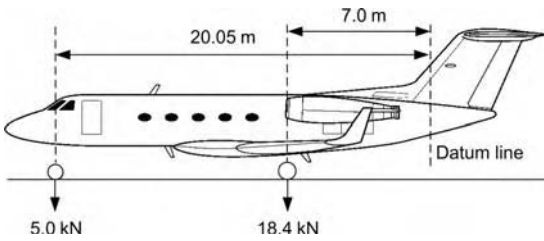

Figure 4.41 Aircraft CG.
4. Find the distance of the CG from the datum point, for the aircraft shown in Figure 4.41. Note that the weights given are